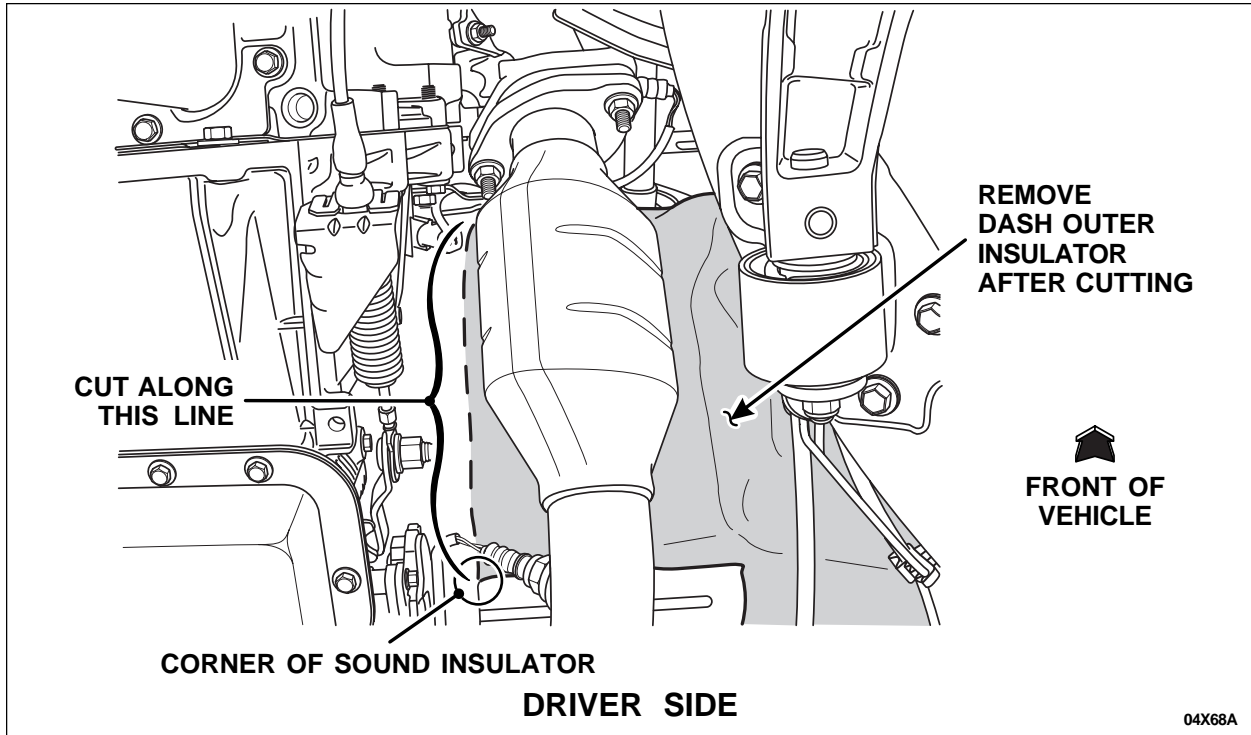

FIGURE 1
Using a sharp razor-type knife, cut the dash outer insulator material from above the catalytic converters as shown in Figures 1 and 2.
- On the driver side – use the corner shown as a landmark to start or end the cut, then remove the cut piece of insulator. See Figure 1.